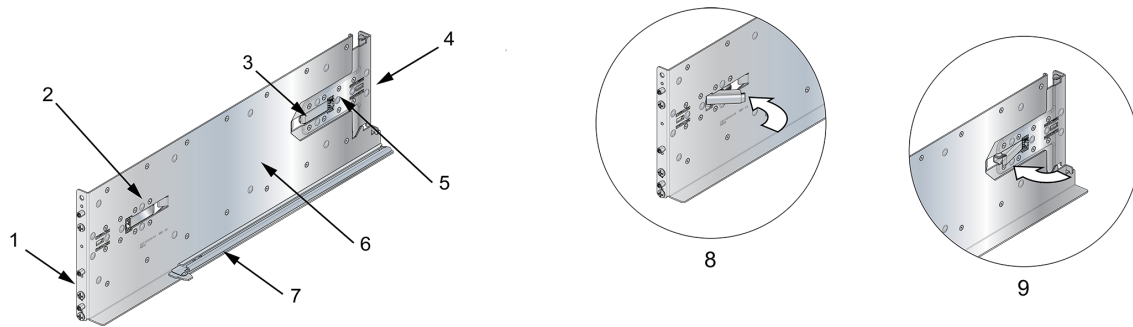

Figure 6: Left Shelf – Inner View
The finished assembly for rack mounting the device is shown in Figure 6: Left Shelf – Inner View. Detailed mounting instructions for all rack types start from Shelf Installation.
Figure 6: Left Shelf – Inner View displays the inner view of the left shelf. Depending on the rack kit ordered, each shelf may include latches to the locking mechanism that secures the shelf to the rack. If the locking mechanism is not present, the kit shall be attached with appropriate screws (not included). **Figure 6: Left Shelf – Inner View** displays latches that are closed; the insets display open latches. The inner side of each shelf is oriented toward the center of the rack.
1. If applicable, verify that both locking mechanism latches on the shelf are open (Figure 6: Left Shelf – Inner View, insets A and B). Racks that do not require the locking mechanism, skip to Step 2.